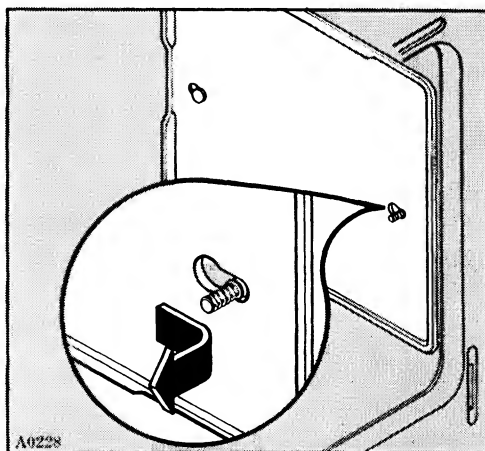

Fig. 8
2. Slide the side panels towards you to release them from their retaining pins, then lift away from the oven wall (Fig. 8).